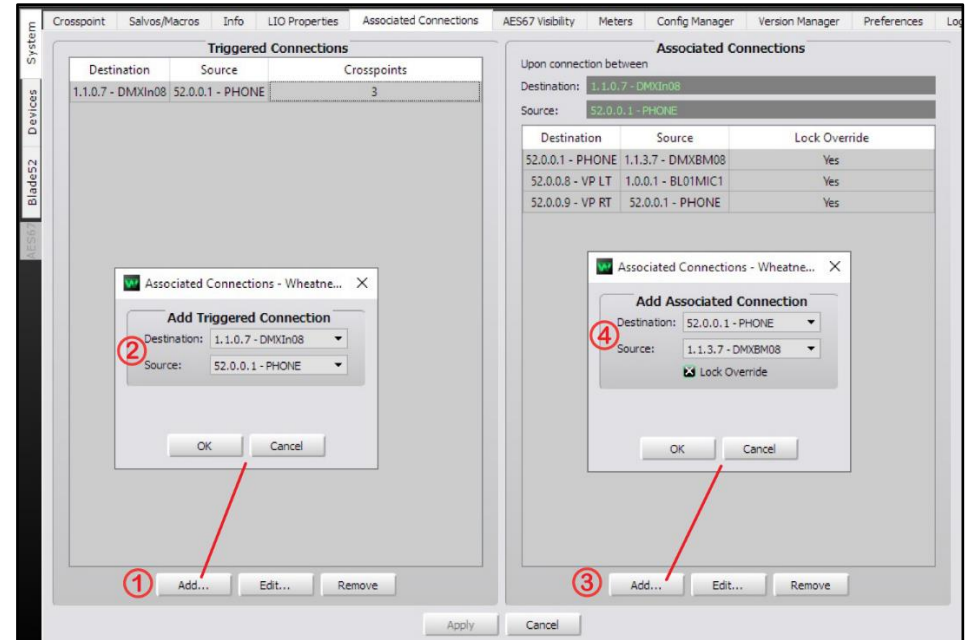

Figure 3-19 Associated Connections Tab
This type of AC is shown in Figure 3-19, but one can automate many system operations in response to a predefined trigger connection. It can even be triggered by a Disconnect, like removing a crosspoint or taking NoSource on a fader channel. Additional details on Associated Connection applications can be found on page 43.
Setting up an AC is a four-step process, as shown in Figure 3-19. In the tab’s **Triggered Connections** section, click the *Add...* button (1) to open the *Add Triggered Connection* dialog box (2) where a source and destination are selected. In the example, the triggered connection is the PHONE being taken on channel 8 (DMXIn08). Clicking *OK* adds that entry to the Triggered Connections list and closes the dialog box.
As shown in Figure 3-19, multiple Associated Connections can be assigned to the same trigger. In the example, when the PHONE is taken on channel 8, the channel 8 bus-minus signal is connected to the PHONE plus the caller and host mic audio are connected to a VoxPro editor (the host mic, BL01MIC1, connects to the left channel and the incoming PHONE audio connects to the right channel of the VoxPro output).